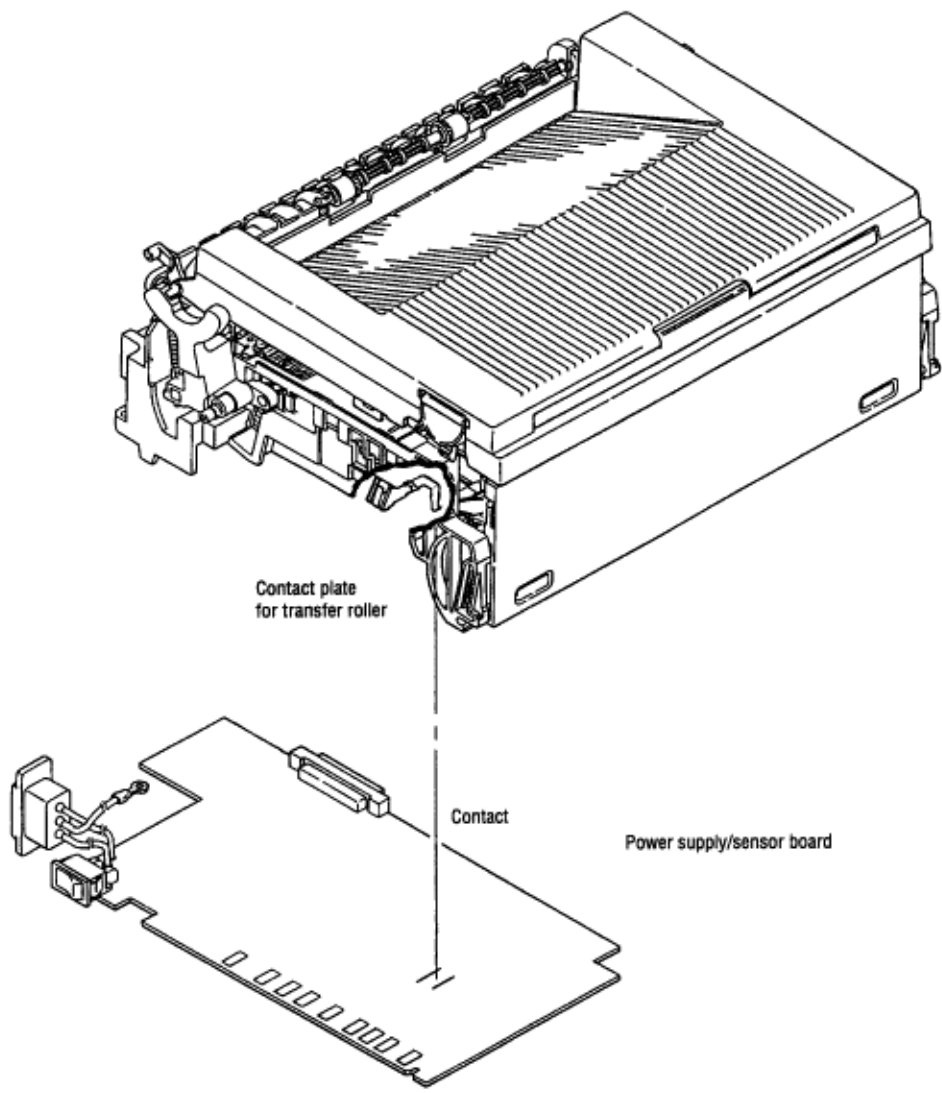

Figure 6-5
- Is the contact plate of the transfer roller in proper contact with the power supply/sensor board (see Fig. 6-5)?
↓ No Is the contact plate of the transfer roller in proper contact with the power supply board (see Fig. 6-5)?